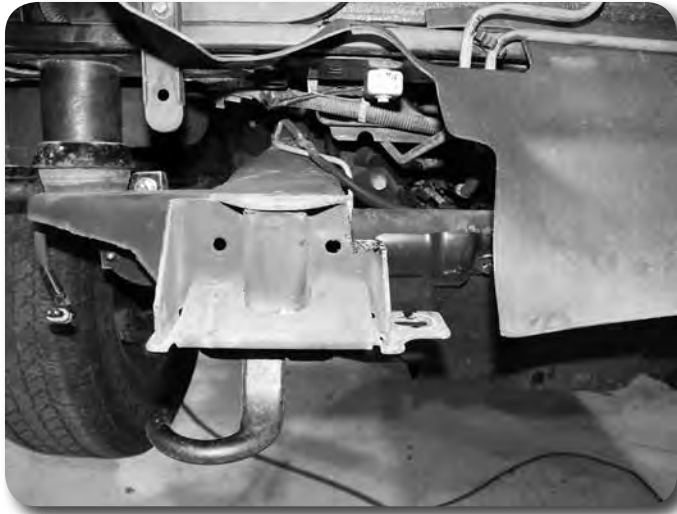

Figure 25B
60. The factory front bumper mount brackets on the frame must be trimmed. Measure down 1-1/4" from the upper inside corner of each bracket and mark. **Figure 25A** Make a vertical cut line on the front mounts that is inline with the inside surface of the frame rail down the mark. Cut the upper corner of the bumper mount off along the lines. **Figure 25B** Paint any bare metal to prevent corrosion.